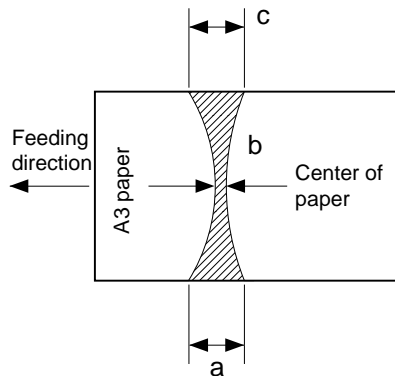

Figure 11-245
- A3 copy paper is picked up and discharged as shown in Figure 11-245 ready for measurement.